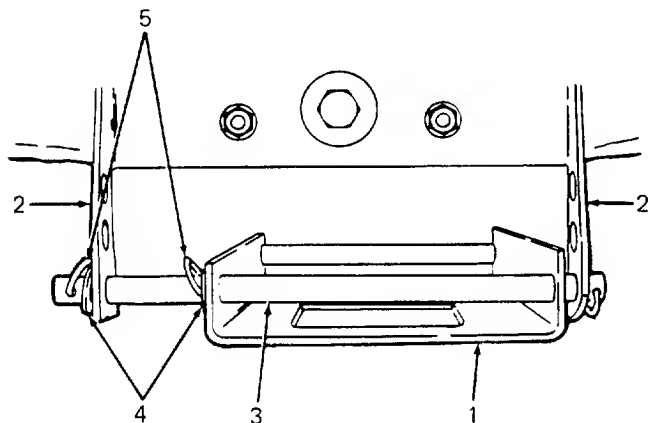

Figure 37
5. Turn the front wheels to the left as far as possible. Remove the front hanger bracket assembly from the front hanger bracket as follows: Remove two hairpin cotters on right side of tractor hanger rod and slide rod out to the left. (Refer to Figure 37.)